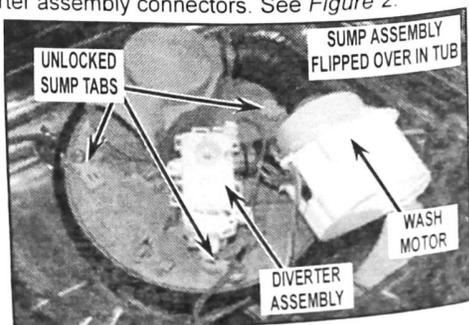

FIGURE 2
9. From inside the tub, pull the sump upward and flip over to disconnect the two wash motor connectors and the two diverter assembly connectors. See Figure 2.